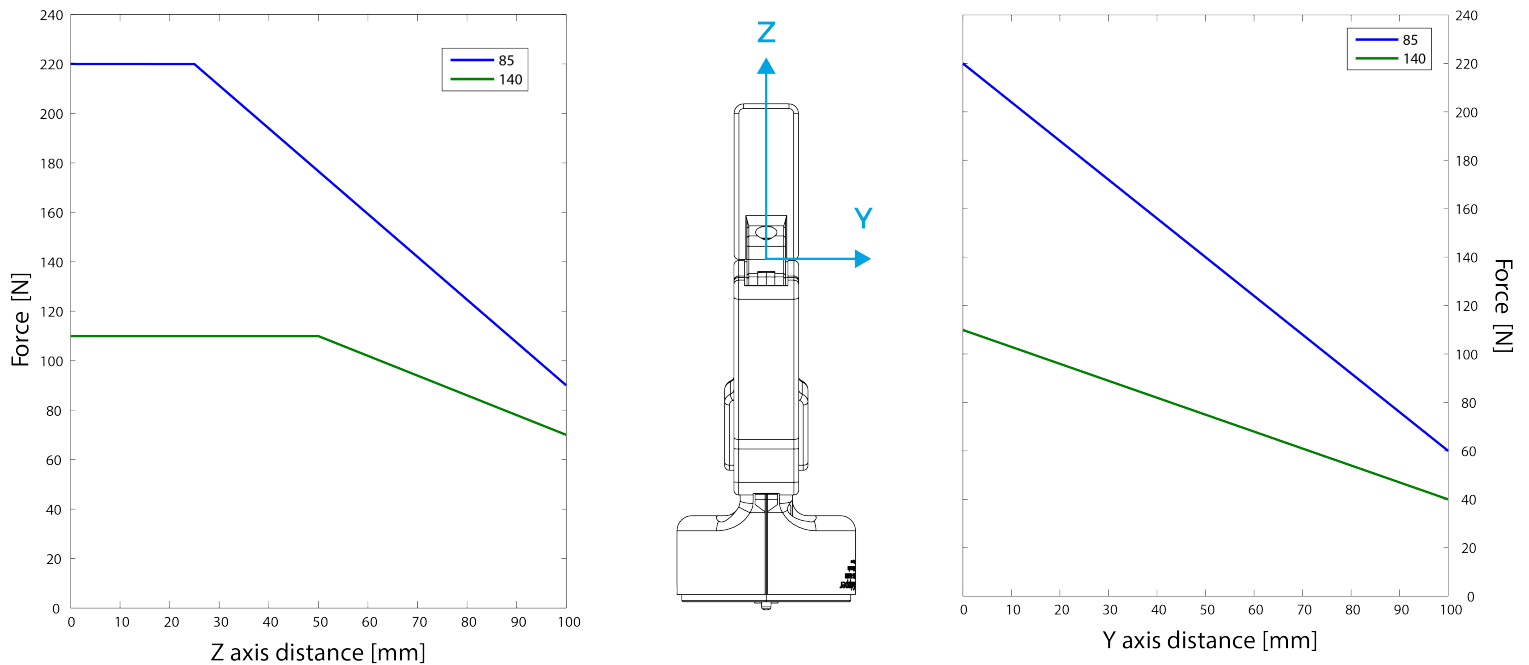

Fig. 6-19: Grasp force in the Y and Z axis for the 2-Finger 85 and 2-Finger 140.
* Moments in x and y are calculated from the base of the fingertips as shown in figure 6-19.